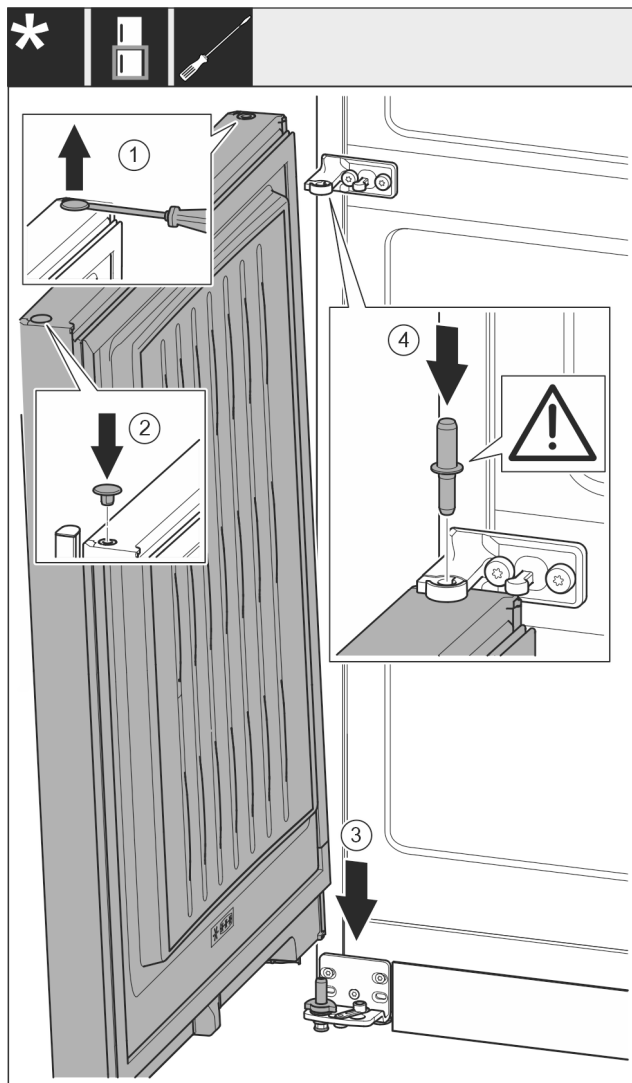

Fig. 20
- Use a slotted screwdriver to lift the plug Fig. 20 (1) carefully and pull it out.
- Re-insert the plug Fig. 20 (2) on the other door side.
- Lower the door Fig. 20 (3) onto the bottom bearing bolt.
- Insert the centre bearing bolt Fig. 20 (4) through the centre bearing block in the lower door. Ensure that the latching cam is pointing towards the rear.